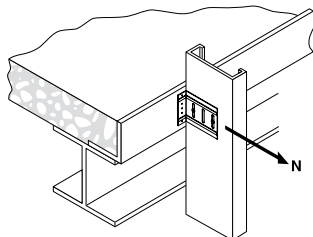

Figure 8:
- 2 Allowable load based on a safety factor of 5.0 in direction shown in Figure 8 above for attachment of deflection slip clip to 3000 psi Lightweight Concrete Slab with 12 GA. sheet steel pour stop with minimum yield strength $F_y = 33$ ksi.